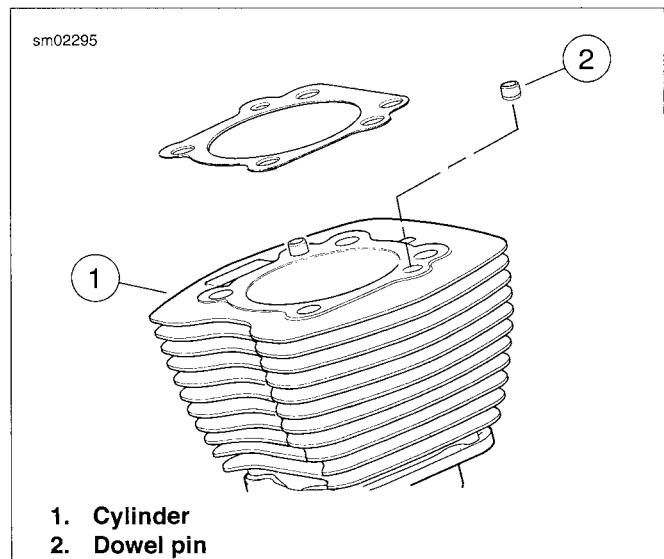

Figure 3-38. Cylinder Dowel Pins
1. See Figure 3-38. With the part number face up, place the head gasket over the two dowel pins in the upper flange of the cylinder.